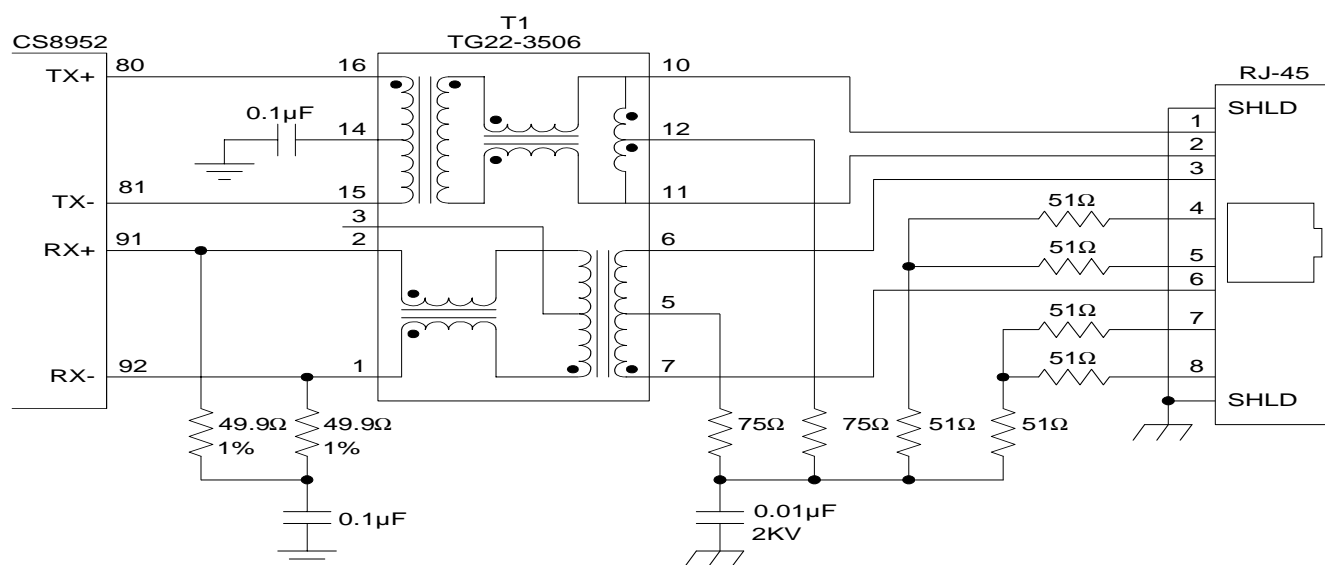

Figure 6. Recommended Connection of Twisted-Pair Ports (Network Interface Card)
The recommended connection of the twisted-pair interface is shown in Figure 6. The unused cable pairs are terminated to increase the common-mode performance. Common-mode performance is also improved by connecting the center taps of the RX and TX input circuits to the DC-isolated ground plane. The 0.01  $\mu\text{F}$  capacitor C1 must provide 2KV (1,500 Vrms for 60 seconds) of isolation to meet 802.3 requirements. If a shielded RJ45 connector is used (recommended), the shield should be connected to chassis ground.
- Figure 6 shows the CS8952T in a NIC or adapter configuration. It may be configured for a hub or repeater application by changing the wiring to the RJ-45 as shown in Table 11.